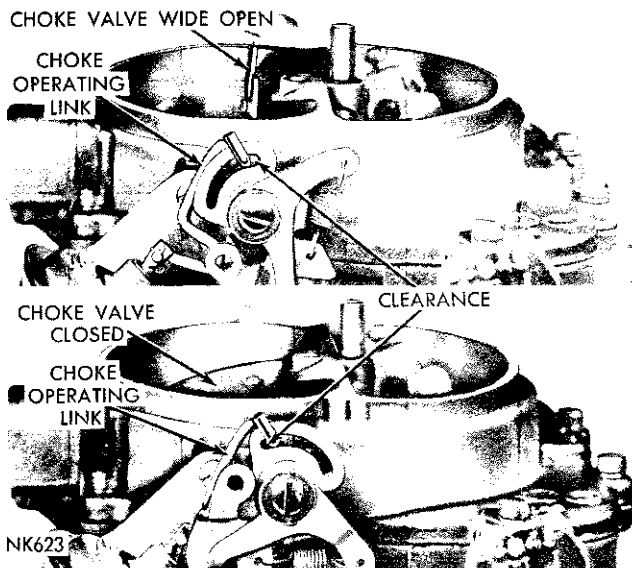

Fig. 13—Choke Operating Link Clearances
(8) With no vacuum applied to the diaphragm, some clearance should exist between the choke operating link and the choke lever slot, in both the open and closed choke valve positions, as shown in (Fig. 13).